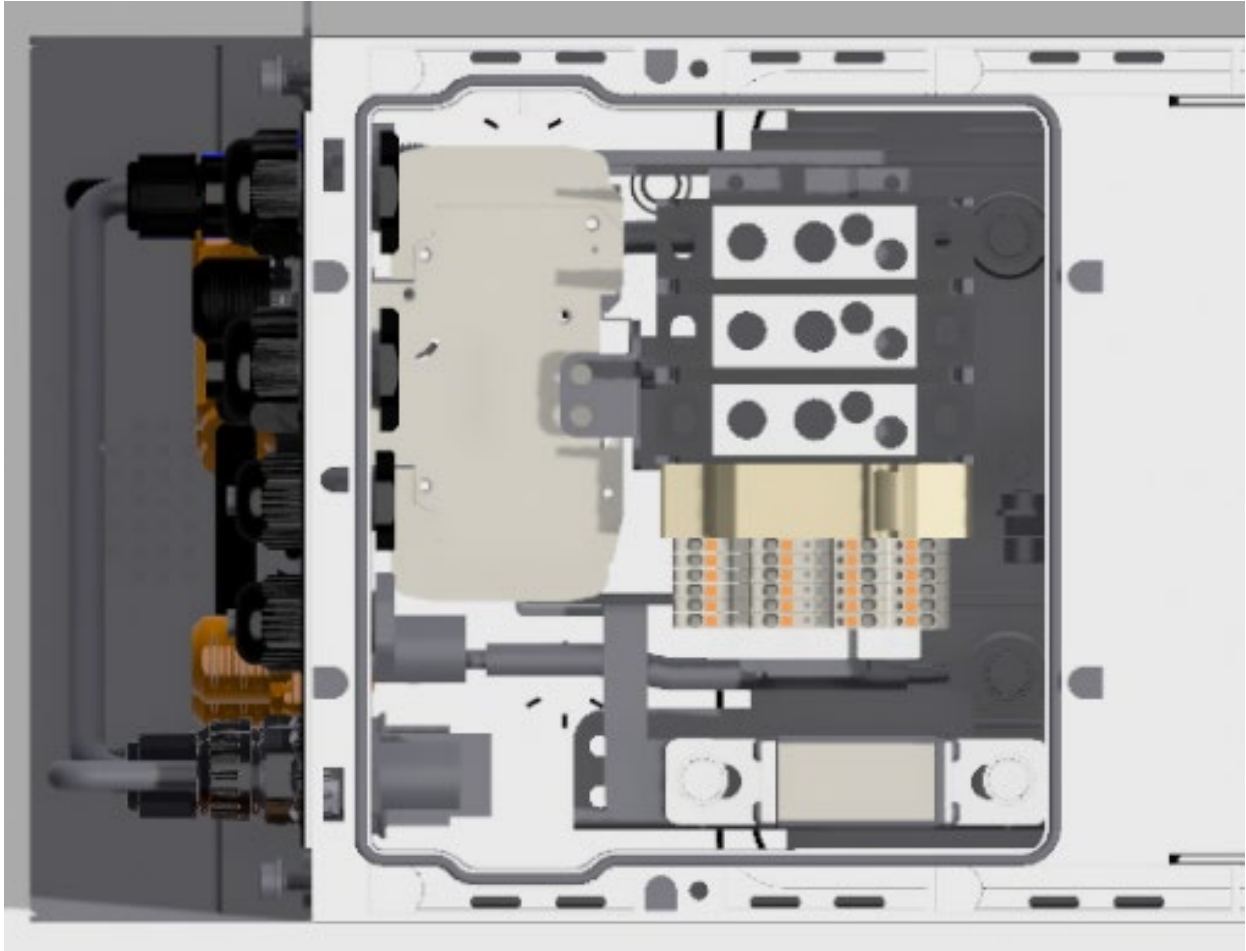

Figure 20: Battery service compartment
1. If using the **left side (Figure 20)**, the **plastic cover must be drilled** to accommodate the installation of a conduit or conduit adapter.